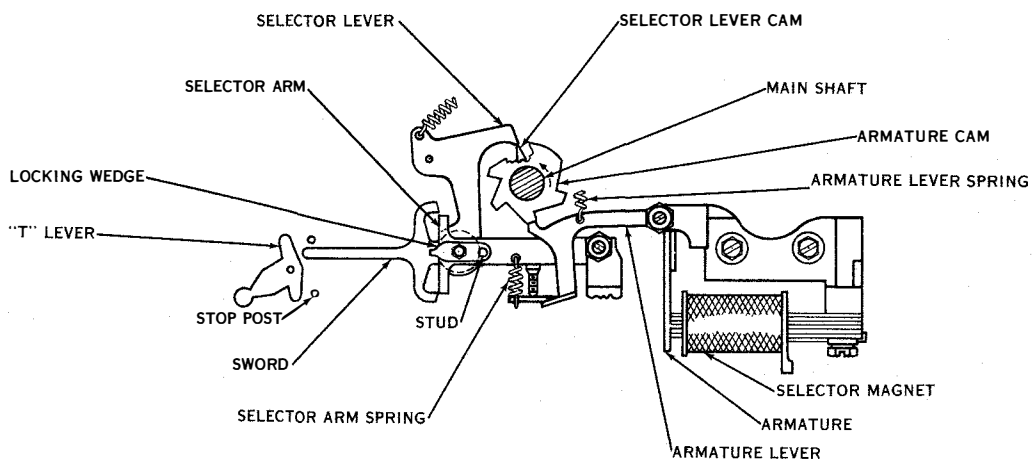

Figure 2-33. Selector Mechanism
(3) SELECTOR MECHANISM.—The selector mechanism consists of a selector magnet, armature and armature lever, selector arm, locking lever, and five each of selector levers, swords, and T levers (see figure 2-33). The selector mechanism transforms the selecting intervals of a code combination into motion necessary for positioning the code bars.
(a) The armature and armature lever pivots on the selector magnet bracket (see figure 2-33). The armature lever, under tension of its spring, rides the armature cam on the cam selector sleeve. The cam is arranged to press the armature against the magnet core each time a code interval of any code combination is received. If the magnet is energized (marking impulse), the armature is held by the magnet for the duration of the marking impulse. If the magnet is de-energized (spacing impulse), the armature is immediately retracted by the armature lever spring. The armature lever is equipped with two adjustable screws; the trip-off screw on an upper extension, and the selector arm operating screw on a lever extension. A selector arm spring forms a yield linkage between the selector arm and the armature lever and tends to hold the selector arm against the head of the selector arm operating screw.